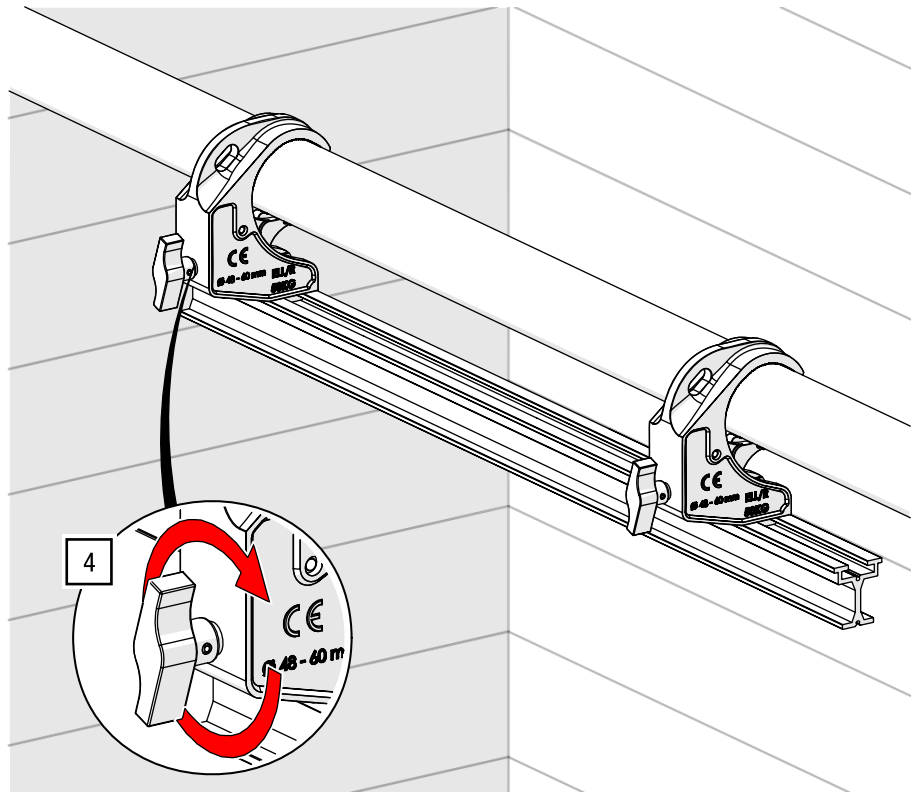

Fig. 60: G-CLAMP direct – Attach to pipe
4. Tighten the wing screw hand-tight (see Fig. 60).